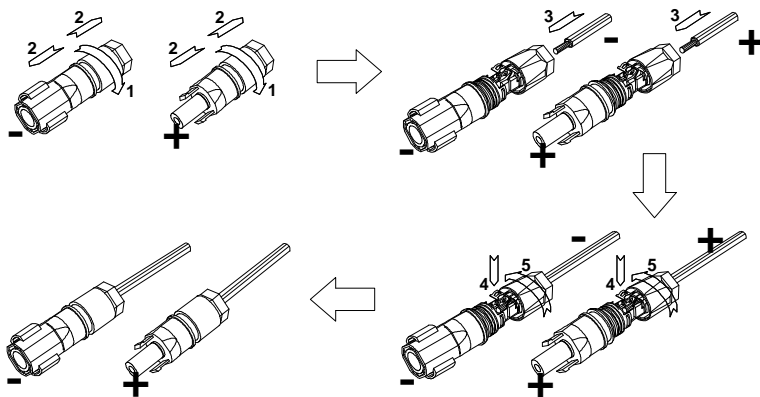

Figure 3.8 Connection between DC connector and solar modules
- (1) Lighting, short-circuit and other protection measures which meet the local electrical safety laws and regulations are needed before the AC connection;
- (2) Connect the output cables of solar modules to the DC connector as figure 3.8 shows. Loose the nut of connector and remove the isolation layer of the DC cable for about 15mm. Insert it into the connector and press until hear the lock sound. Finally fasten the nut. The wiring of negative pole is the same as that of the positive pole. Ensure the poles of solar modules are well connected with the connectors;
- (3) Connect the DC connector with the inverter and ensure tightly-fastened;
- (4) Insert the screw-driver into the hole of the connector to remove the connector form the inverter.
- (5) Unclench the pressed cover with screw-driver to remove the cables from the connector.